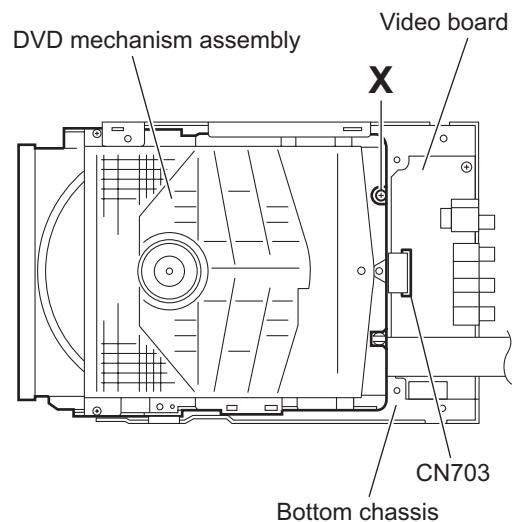

Fig.27
- (3) Disconnect the card wire from the connector **CN703** on the video board. (See Fig.27.)
- (4) Remove the screw **X** and take out the DVD mechanism assembly from the bottom chassis. (See Fig.27.)